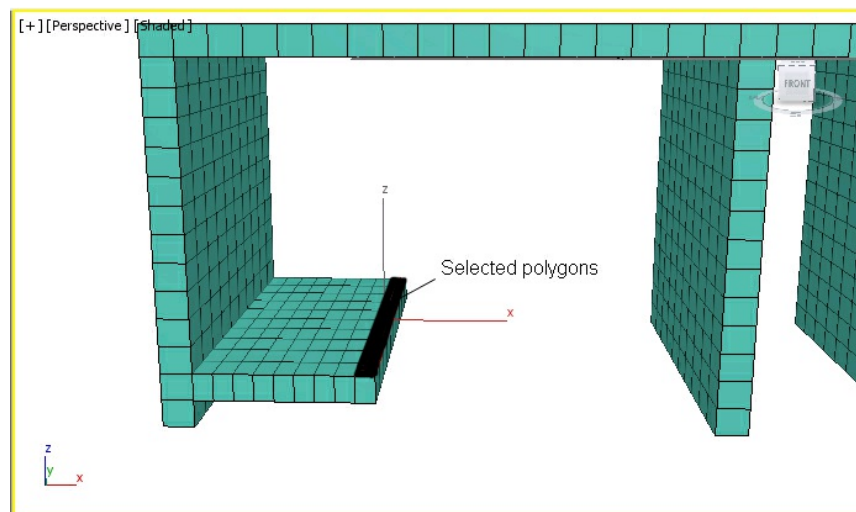

Figure 9-71 Selected polygons of computer table
11. Select the **Polygon** sub-object level and select the polygons of the extruded part, as shown in Figure 9-71.